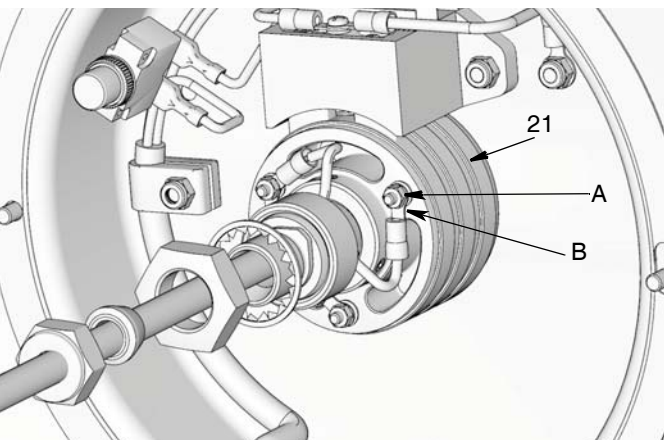

FIG. 19
- 5. Install three lock washers (B) and three 7 mm hex nuts (A). Tighten nuts to 10.2 in-lbs (1.15 N.m). (FIG. 19)